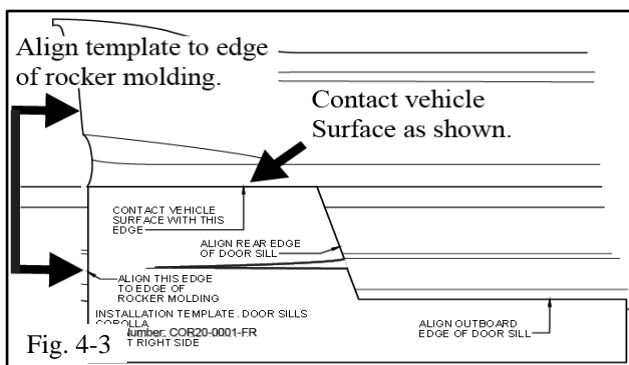

Fig. 4-3
- (b) Align template as indicated (Fig. 4-3).
- (1) Secure with tape as needed.
- (2) Template should be contacting body weld.